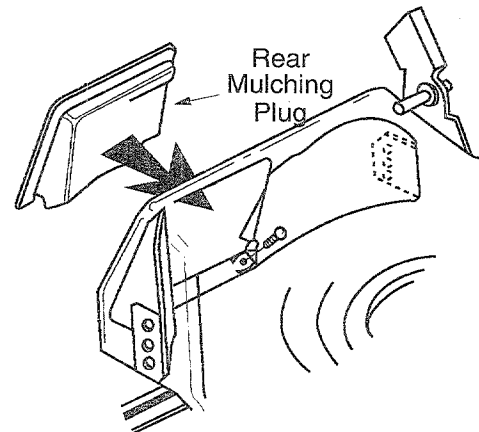

Figure 11
1. Lift the rear discharge door and install the rear mulching plug. See Figure 11.
1. If the grassbagger is installed, lift the rear discharge door, remove the grassbagger and install the rear mulching plug. See Figure 11.